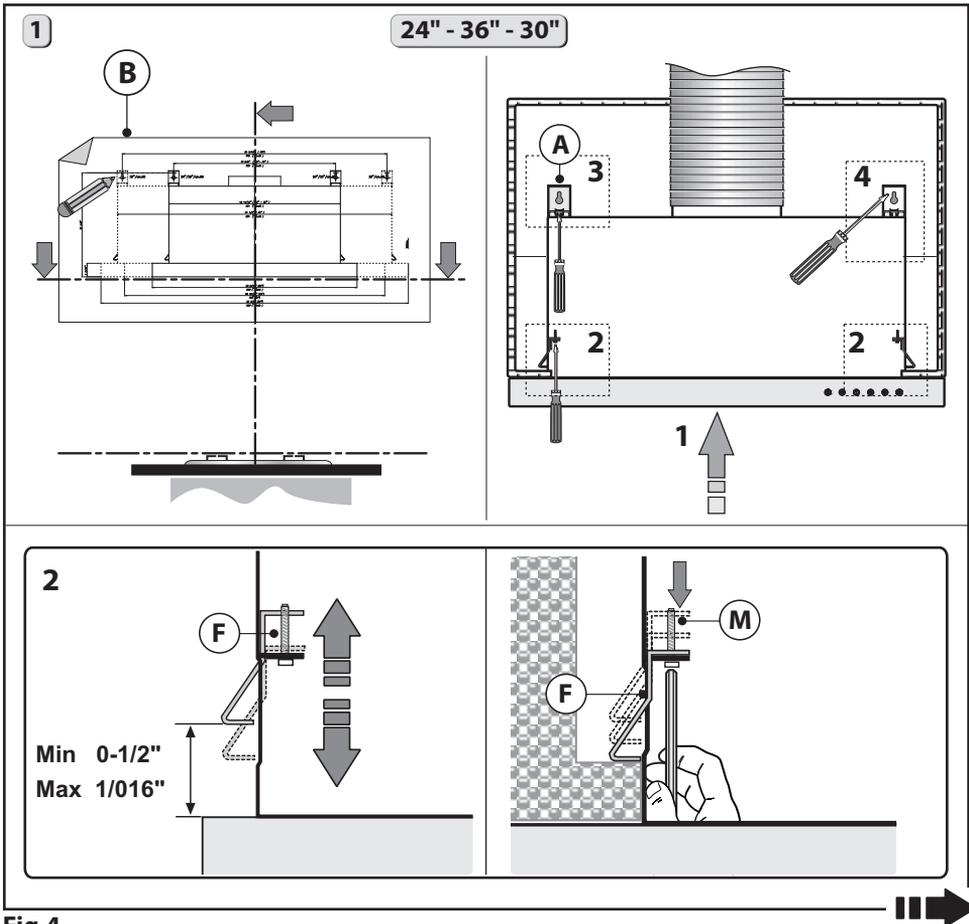

Fig.4
- Mark the references to fix brackets A to the wall unit, as indicated in figure 4.
2- Make sure the thickness of the wall unit is within the parameters indicated in figure 4 - step 2.
3- Build the hood in the wall unit and make sure the 2 side springs F are connected correctly. Fasten the hood to the wall unit using the screwdriver and the relative screws M and tighten until the device is firmly against the wall unit (figure 4 - step 2).
4- Remove pin Y from bracket A. Then place the insert X on the slot of the bracket A, as indicated in figure 4 - step 3.
- Match the C screws with the L washer and fix the A bracket to the cabinet as indicated in figure 4 - step 3.1. Pay attention not to completely tighten screws C before the bracket
firmly reaches the wall unit (figure 4 - step 3.2). After any adjusting, tighten the bracket to the body (figure 4 - step 3.3).
- Fasten screw D to the wall unit as indicated in figure 4 - step 4.
- Once you have fastened the hood to the wall unit, adjust the spacer L, with the screws P, to make the device line up with the rear wall unit (figure 4 - step 5).
3- Make sure the thickness of the wall unit is within the parameters indicated in figure 4 - step 2.
4- Build the hood in the wall unit and make sure the 2 side springs F are connected correctly. Fasten the hood to the wall unit using the screwdriver and the relative screws M and tighten until the device is firmly against the wall unit (figure 4 - step 2).
- Once you have fastened the hood to the wall unit, adjust the spacer L, with screws P, to make the device line up with the rear wall unit (figure 4 - step 5).
This model includes side installation to the wall unit by using 2 brackets B (figure 6 besides steps 3-4, indicated in figure 4).
- Match the C screws with the L wascher and fix the A bracket to the cabinet as indicated in figure 4 - step 3.1. Pay attention not to completely tighten screws C before the bracket firmly reaches the wall unit (figure 4 - step 3.2). After any adjusting, tighten the bracket to the body (figure 4 - step 3.3).
- Once you have fastened the hood to the wall unit, adjust the spacer L, with screws P, to make the device line up the rear wall unit (figure 4 - step 5).